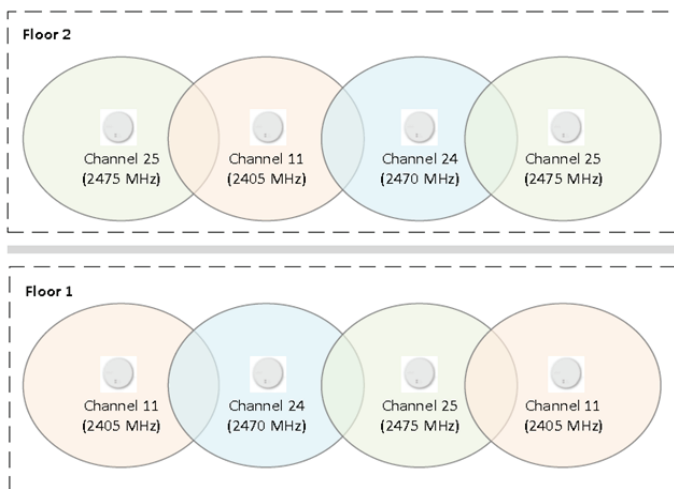

Figure 13 - Three Channel Reuse Plan for Multiple Floors with Multiple Subnets
- If nearby subnets must use the same channel, minimize overlap between those subnets. This should be especially considered for installations with multiple floors. Two overlapping subnets separated by a floor should use different channels as shown in Figure 13.